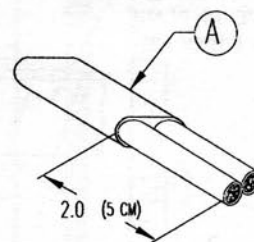

FIGURE 2
### 2) Assemble Cable Boot (Fig. 2, 3, 4).
- Strip the outer cable jacket (Part A - not included) 2.0 in. (5 cm) (Fig. 2).